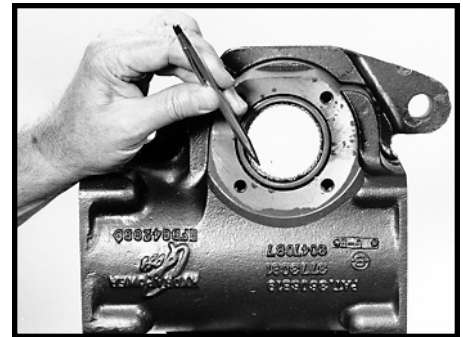

Figure 91
6. Inspect the housing roller bearing (21) and the side cover bearing for brinelling or spalling. SEE FIGURES 91, 92. If either condition exists, replace the damaged housing bearing (21). For the housing bearing, follow disassembly step 41 and assembly step 2, pages 29 and 33. If the side cover roller bearing or "DU" bushing is damaged, replace side cover assembly.